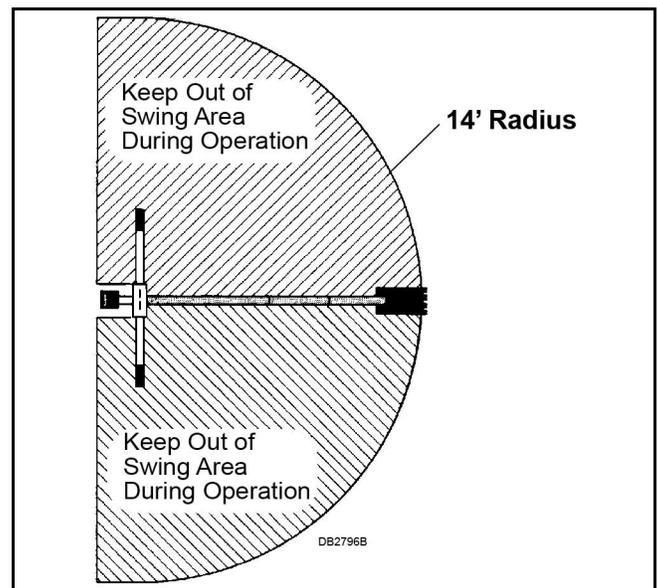

Figure 6. Backhoe Swing Area
■ Mechanical failures such as hose ruptures will cause a load to drop. Lifting a heavy load with the dipper, then operating the boom, could cause boom to drop. In either case, if anyone is in the area (maximum reach of bucket) as shown in Figure 6, serious injury or death could occur.